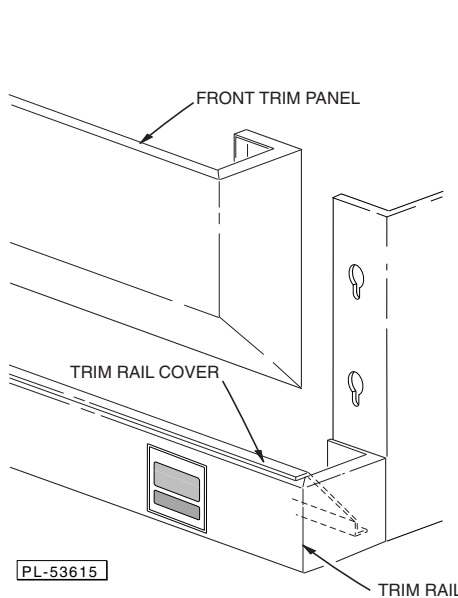

Fig. 2
3. Remove the three screws which secure the upper hinge plate to the cabinet (Fig. 2). This will remove hinge tension. Remove the nut underneath the lower hinge plate which secures the bottom hinge. Remove door. Remove lower hinge plate (Fig. 2).
Use casters only on reach-in models with self-contained refrigeration systems that have cord and plug electrical connections. Raise and block the cabinet a minimum of 7" from the floor. Thread the casters into the holes in the bottom of the cabinet (Fig. 2). Casters with brake should be installed at the front. Securely tighten the caster with the octagon shaped Bolt head underneath — not the round flange on top.
**SELECTOR SWITCH (Convertible Models Only)** — The selector switch should be set to the proper position. To gain access to the switch, remove the front trim panel (Fig. 2) by raising it up (to clear the retaining slots) and out. Set the switch on the proper position (Refrigerator or Freezer) and replace the trim panel.
**TEMPERATURE CONTROL** — The temperature control is set at the factory but local conditions may necessitate slight adjustment. To adjust the temperature control, lift up and remove the front trim panel (Fig. 2). Turn the control knob (Fig. 8) a small amount at a time. Turning the control knob in the direction of the arrow lowers the temperature. The control knob has a marked OFF position which interrupts power to the compressor and condenser fan only, not the entire reach-in.